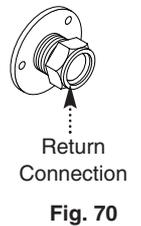

Fig. 70
3. Remove the screws securing the flow switch and return connections and remove the connections (Fig. 70).